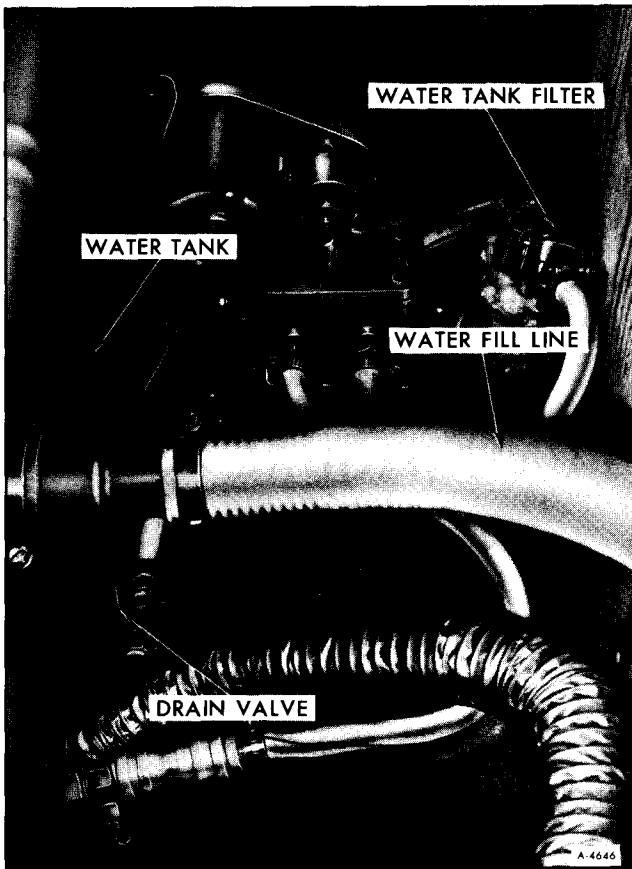

Figure 8—Water Tank Drain Valve Location
7. Open tank drain valve and allow tank to drain (figure 8).
WATER TANK FILTER (FIGURE 8)